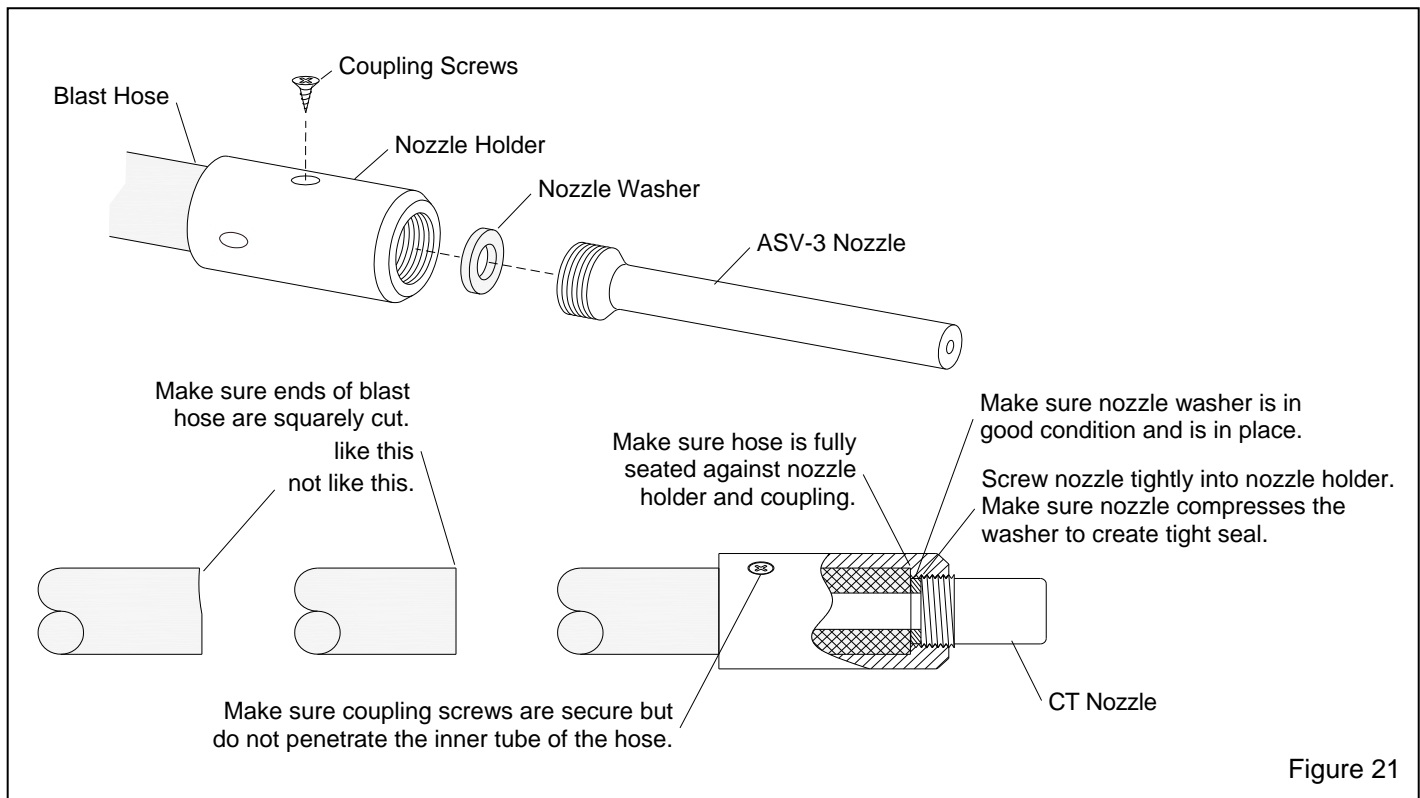

Figure 21
8.2 Blast Hose and Nozzle – Figure 21
8.2.2 When replacing blast hose, make sure the hose is squarely cut and that it is fully inserted into the nozzle holder and coupling until it seats tightly against the shoulder in the holder and coupling, as shown in Figure 21. Make sure correctly-sized screws are used to secure the nozzle holder and blast hose coupling. **NOTE;** Screws should not penetrate through to the inside of the blast hose.